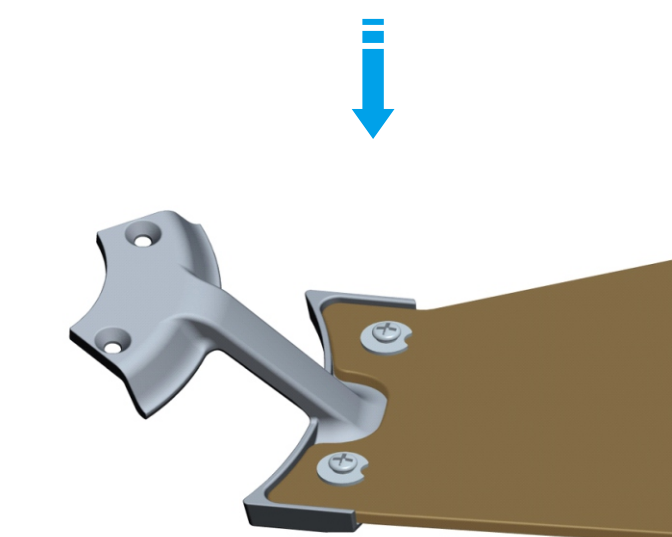

Fig 1.2
- 1.2 Fig 1.2 is the schematic diagram of the installed fan blade arm. Repeat for the remaining blades. Make sure all the screws are firmly tightened.